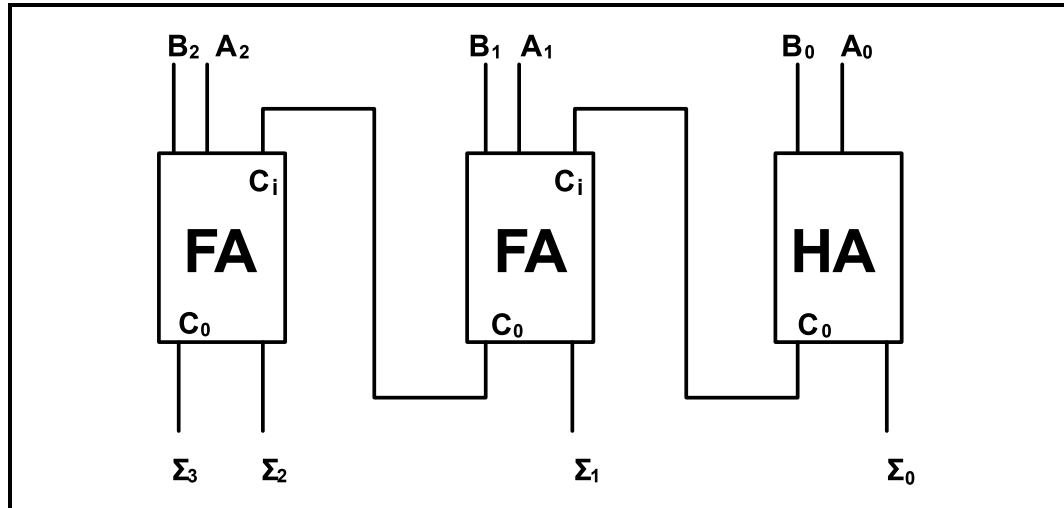

FIGURE 5.4: THREE-BIT PARALLEL ADDER
- 5.4 Determine the sum produced by the three-bit parallel adder in FIGURE 5.4 below when the binary numbers 111_2 and 101_2 are added together, by completing boxes A to F on ANSWER SHEET 5.4.